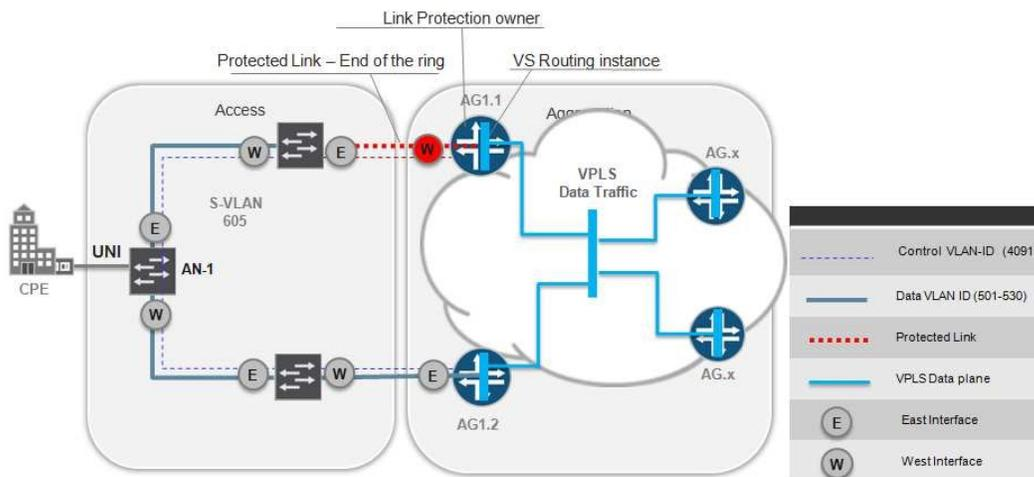

Figure 4 – G.8032 with Ethernet to VPLS Stitching: E-LAN or E-TREE
- E-LAN and E-TREE services—Use a combination of Ethernet ring and VPLS (see Figure 4).
(**Note:** This loop is not depicted in Figure 4, but you should consider this possibility when planning your access and aggregation network.)